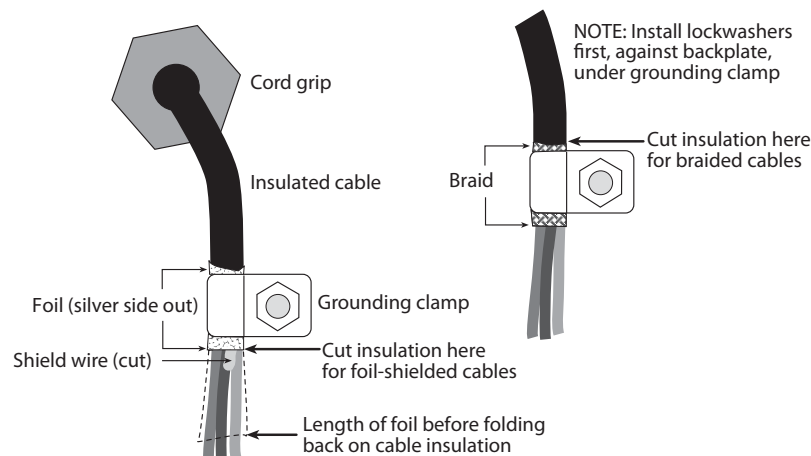

Figure 2-2. Grounding Clamp Attachment for Foil-Shielded and Braided Cabling
- For cables with foil shielding, strip insulation and foil from the cable one half inch (15 mm) past the grounding clamp (see Figure 2-2). Fold the foil shield back on the cable where the cable passes through the clamp. Ensure silver (conductive) side of foil is turned outward for contact with the grounding clamp.
- For cables with braided shielding, strip cable insulation and braided shield from a point just past the grounding clamp. Strip another half inch (15 mm) of insulation *only* to expose the braid where the cable passes through the clamp (see Figure 2-2).
- Route stripped cables through cord grips and clamps. Ensure shields contact grounding clamps as shown in Figure 2-2. Tighten grounding clamp nuts.